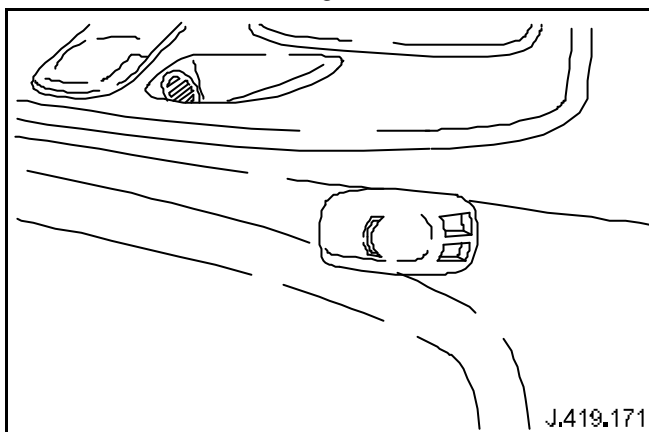

Fig. 4
- 13 Clip new microphone to base plate (see Fig. 4).